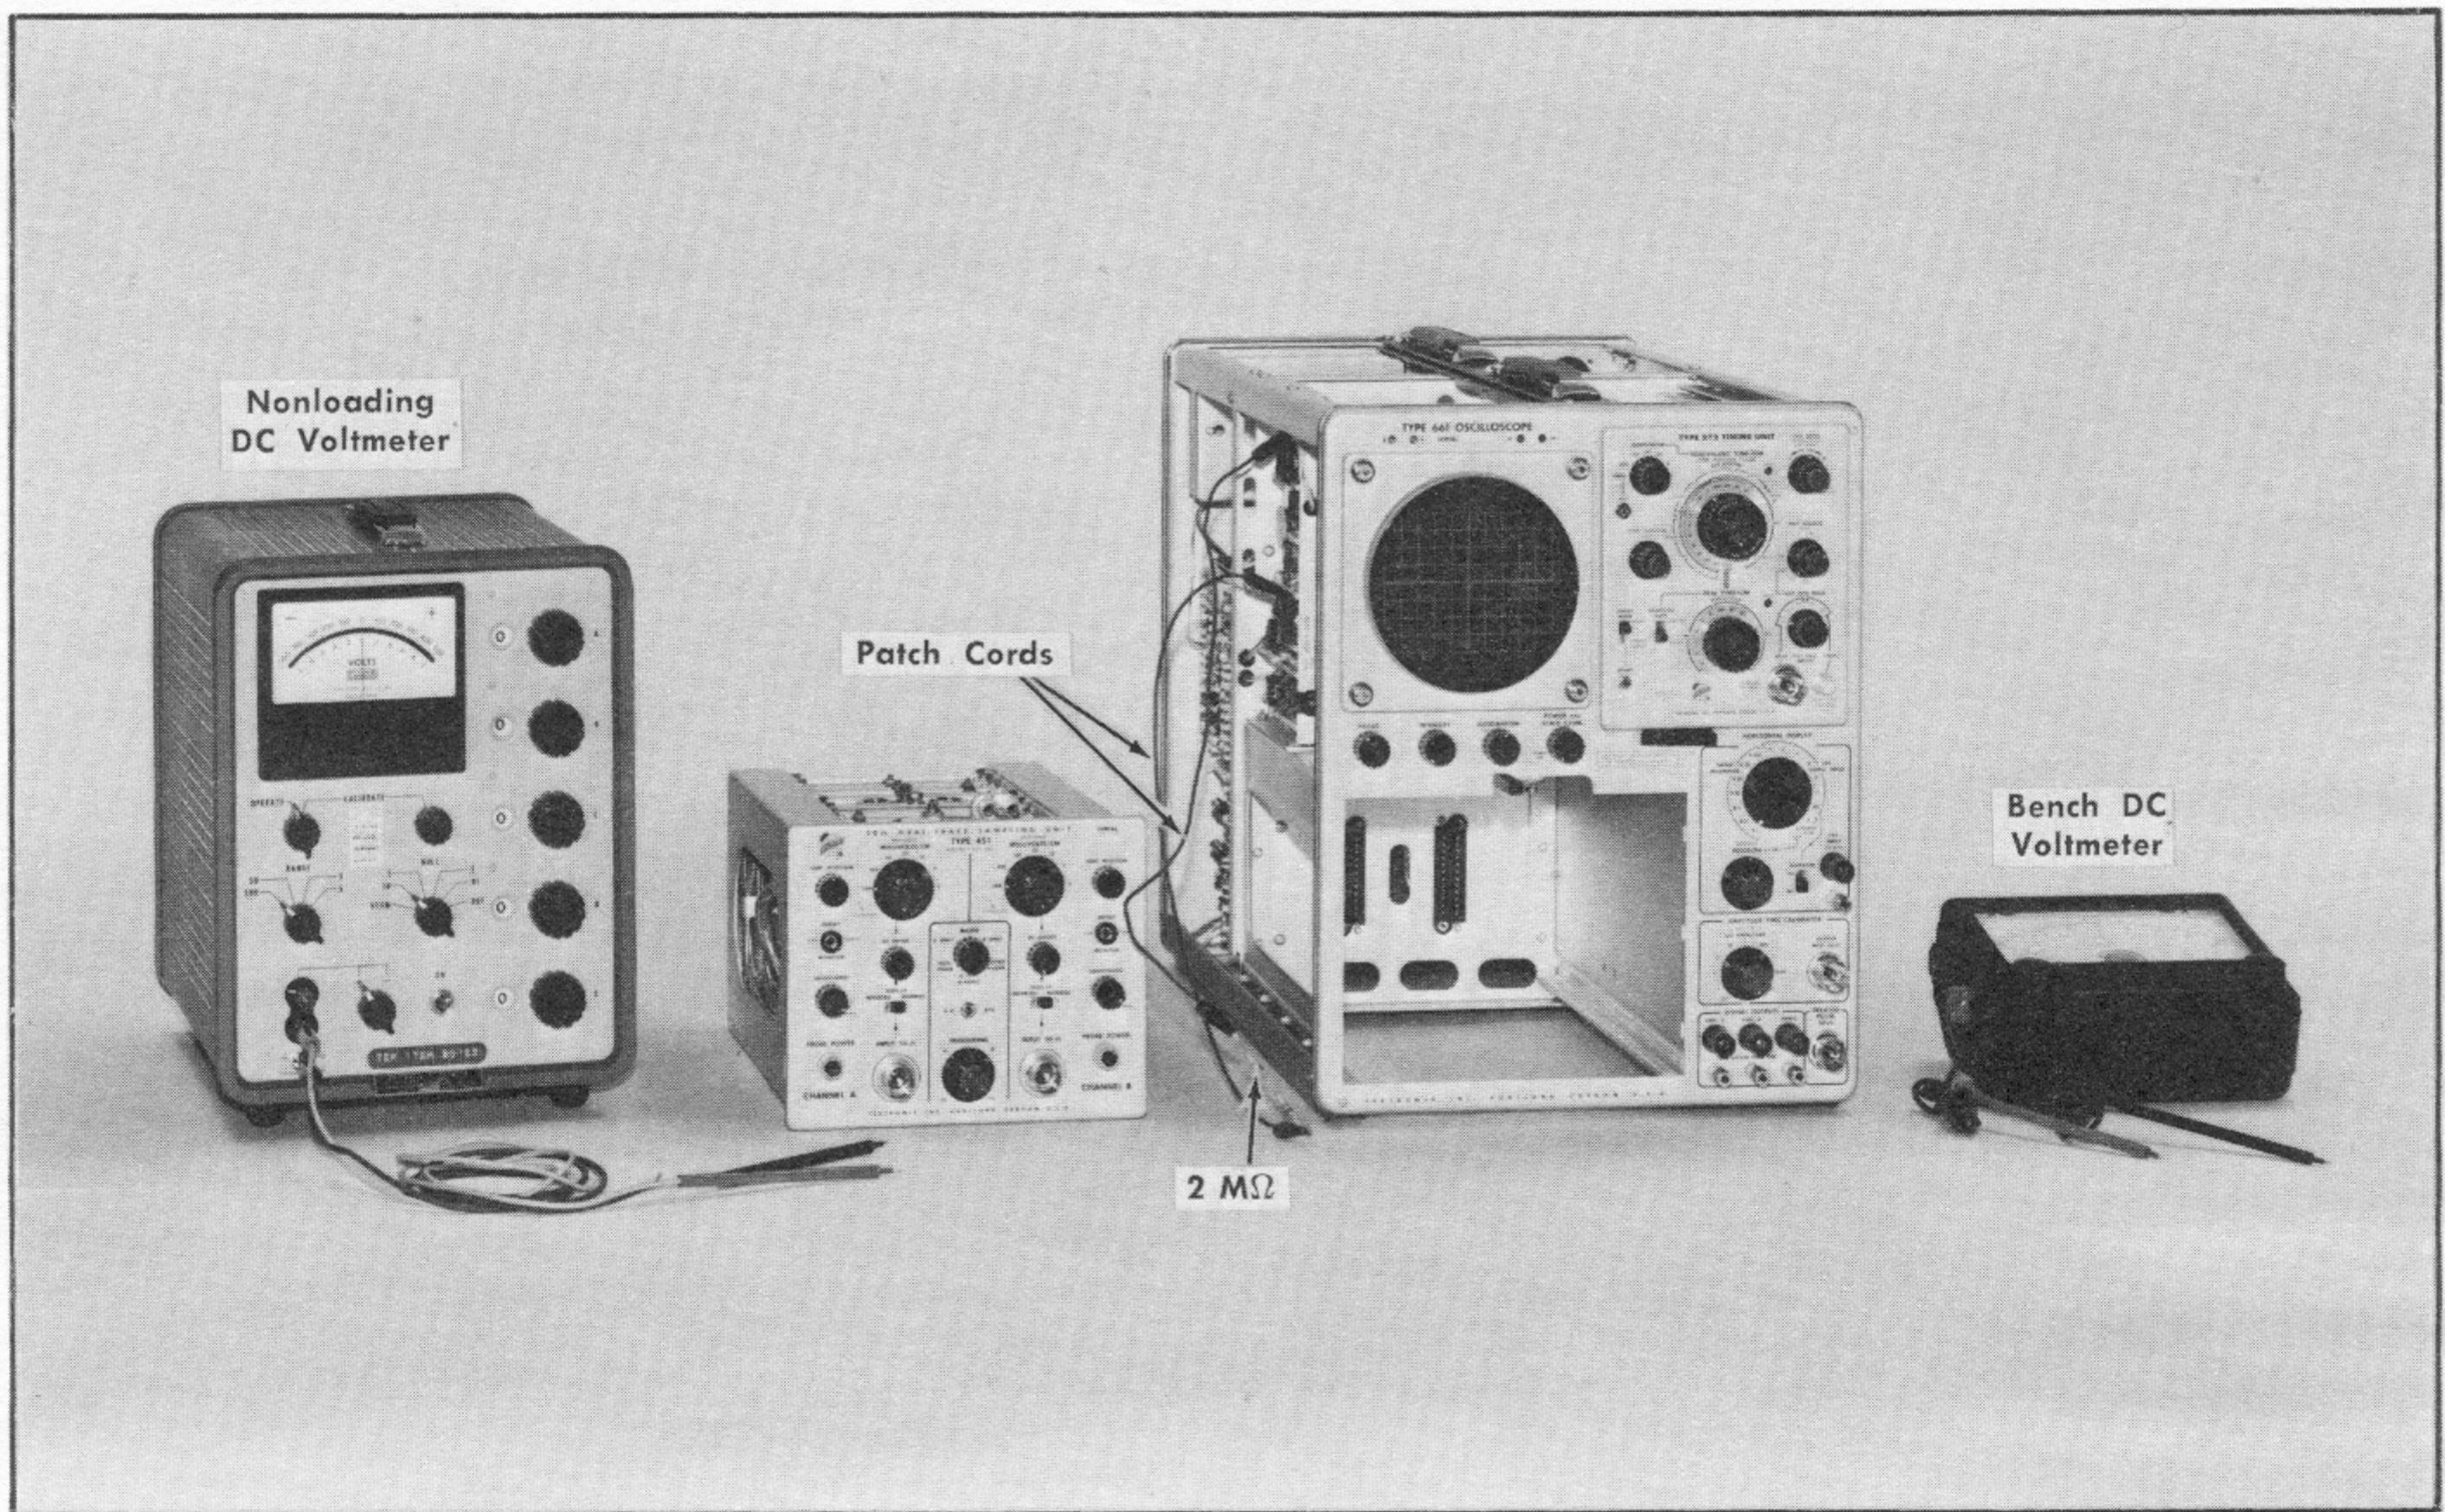

Fig. 6-7. Initial equipment setup for steps 11 through 17.
9. Adjust CRT Trace-to-Graticule Alignment ①
- a. Use the control settings listed following Fig. 6-7 (the Type 4S1 installed).